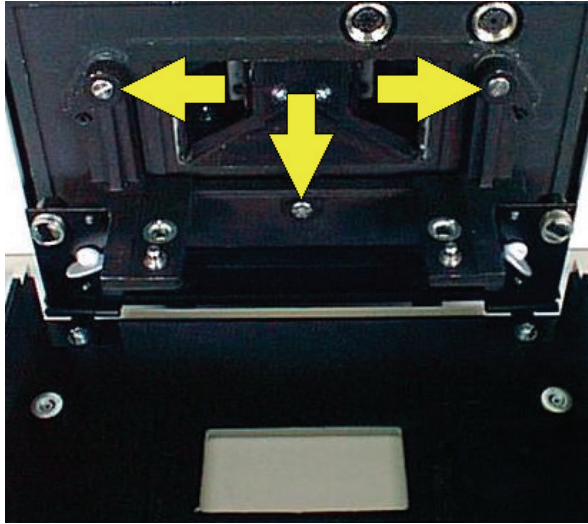

Figure 57 Sampling accessory bracket screws
4. Undo the three screws which attach the sample accessory bracket to the LS 55, as shown in Figure 57.